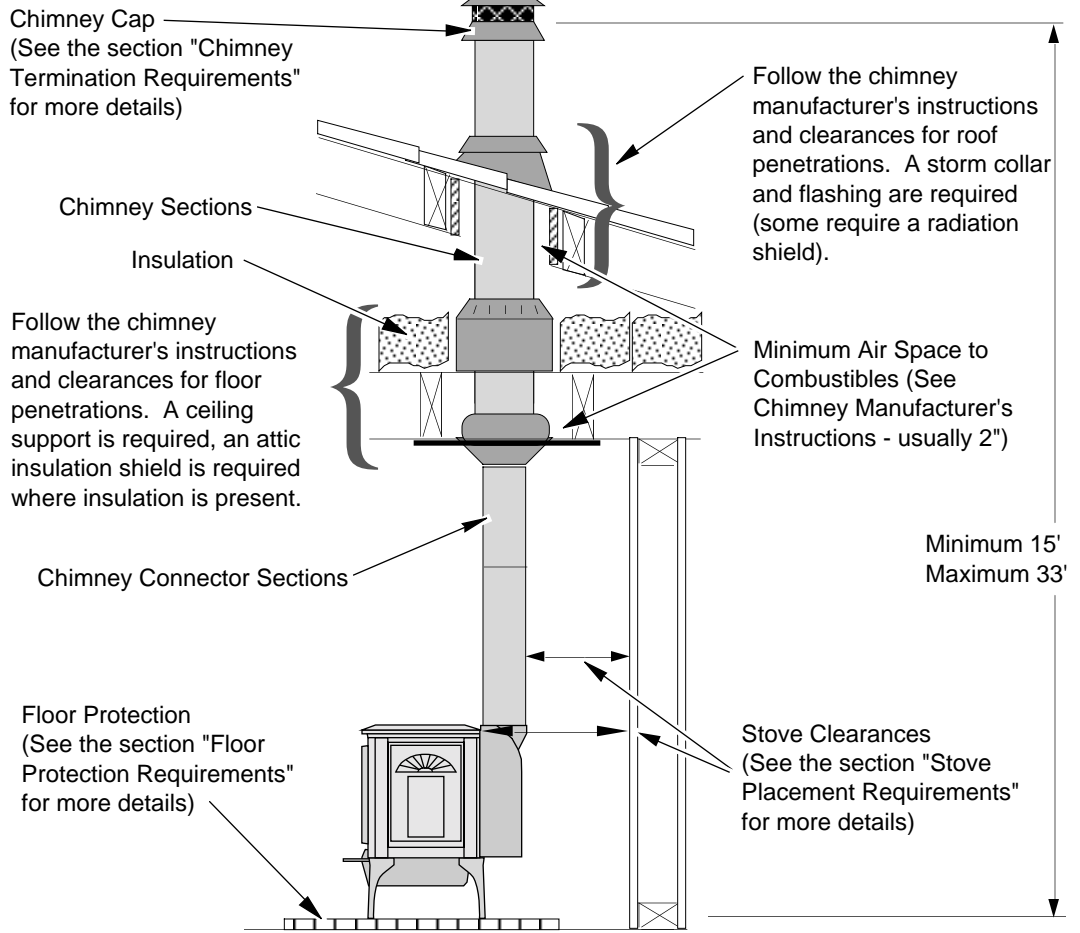

Figure 13
- Chimney connector is required from the flue collar of the stove to the factory-built chimney (see Figure 7) or masonry chimney (see Figures 13, 14, and 15).